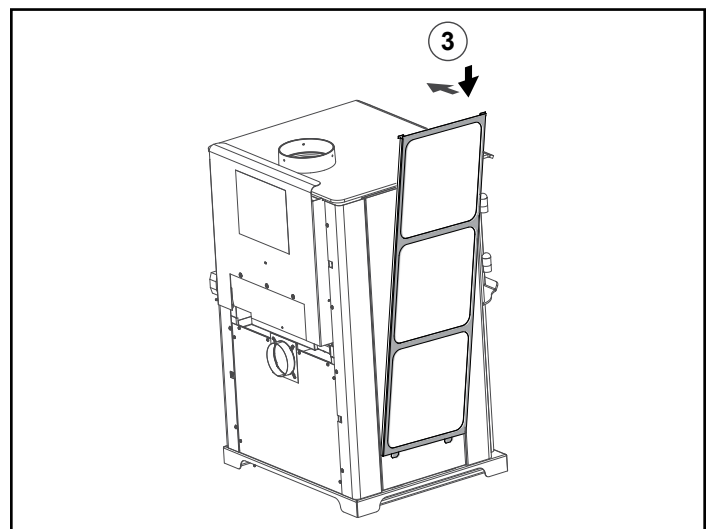

Figure 17.5
- Reattach tile frame (**Figure 17.5**).